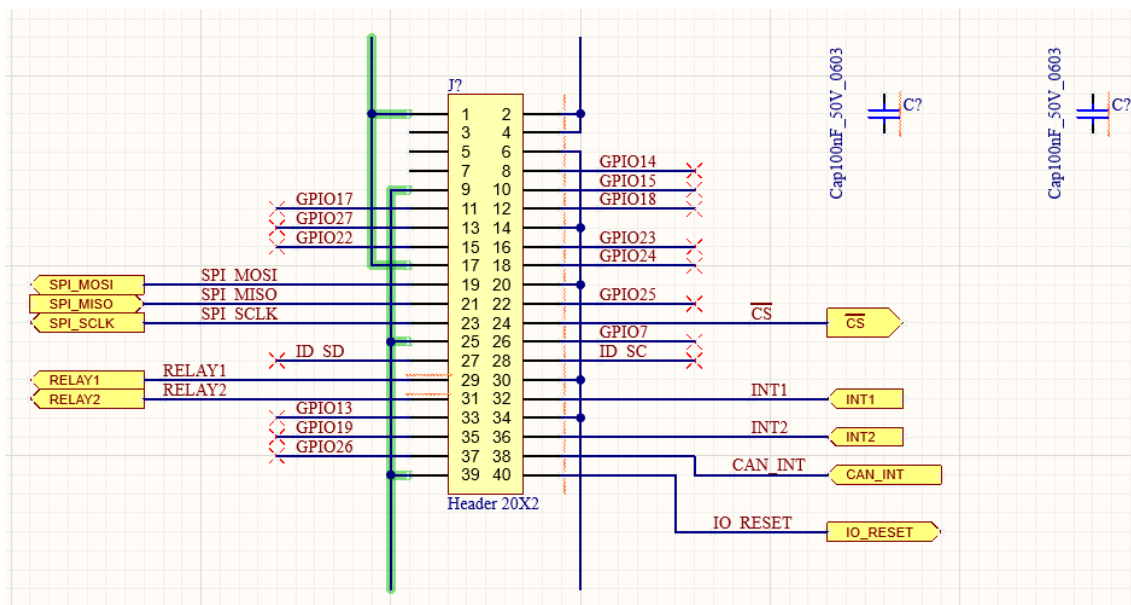

Figure 11. Wiring for component J4
- g) Place a small segment above pin as shown in Figure 11, to which you will add a power port later in this exercise.
18. Using Figure 11 as reference, connect Pins 9, 25 and 39 together using the method described above.